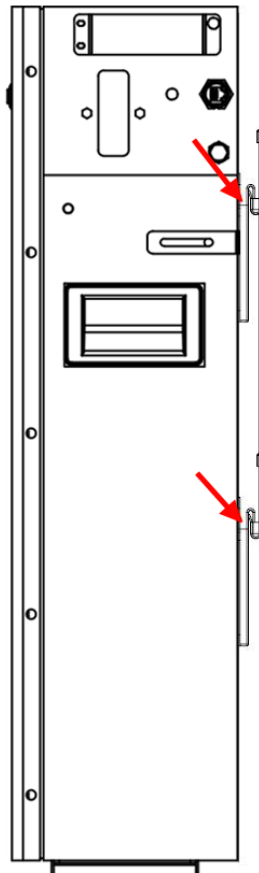

Figure 5-3
6. Lift the battery and secure it by attaching it to the plate after fixing the mounting plate to the wall. Ensure the upper and lower positions of the battery backplane hook accurately engage with the mounting plate, as illustrated in Figure 5-3.